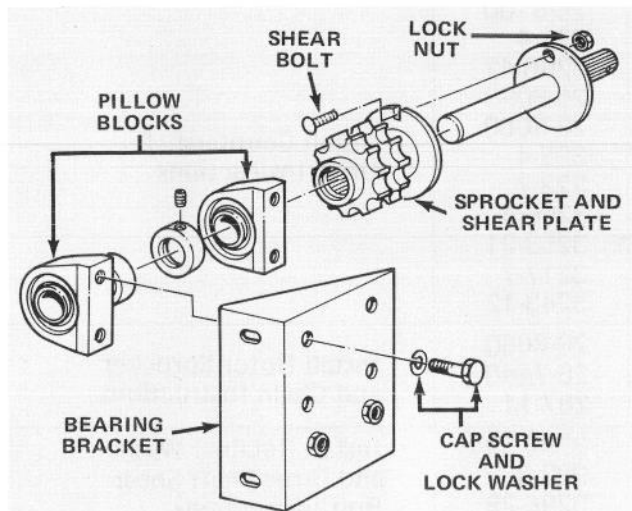

Figure 1
1. Slide new 26-8100 shear plate and sprocket assembly onto nonsplined end of countershaft. Secure parts together with 321-4 shear bolt and 3296-42 lock nut (Fig. 1).
2. Insert the original bearings into two new 26-8090 pillow blocks (Fig. 1).
3. Slide countershaft through first bearing; then slide two lock collars onto shaft and continue to push shaft through the other bearing (Fig. 1). Do not tighten lock collars and set screws. Shaft must be loose.
4. Mount countershaft and pillow block assembly against 26-8080 bearing bracket with four, 323-4 cap screws and 3253-21 lock washers (Fig. 1).